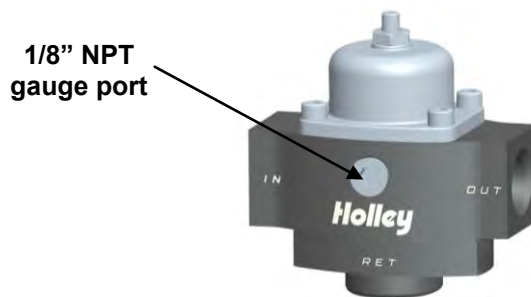

Figure 1
2. The above return style regulators have one discharge (out) port, one inlet port, one return port and one gauge port. See Figure 1. (See chart above for fitting sizes).
3. Connect the fuel line from the "out" side of the pump to the "in" side of the regulator. (Figure 1) All fuel line connections must be leakproof.